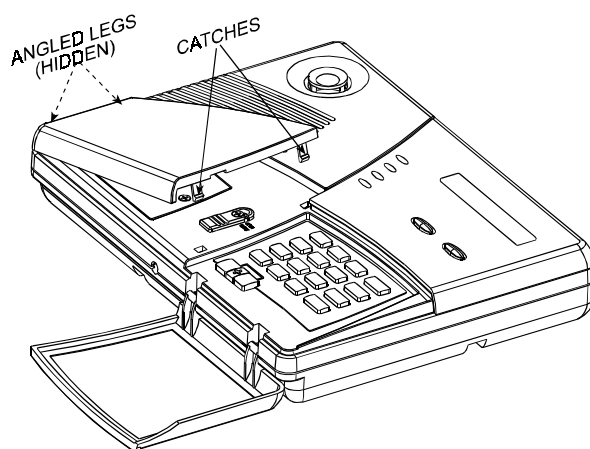
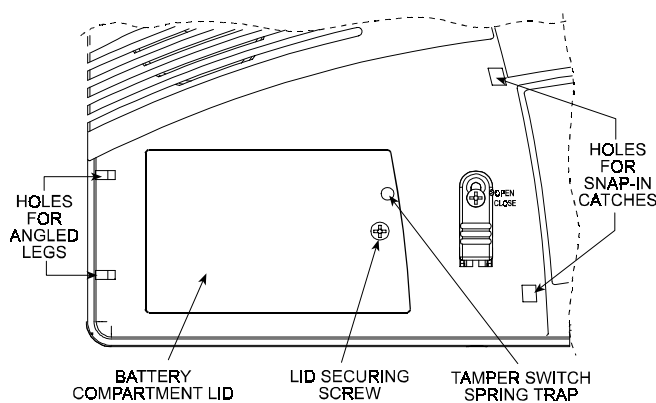
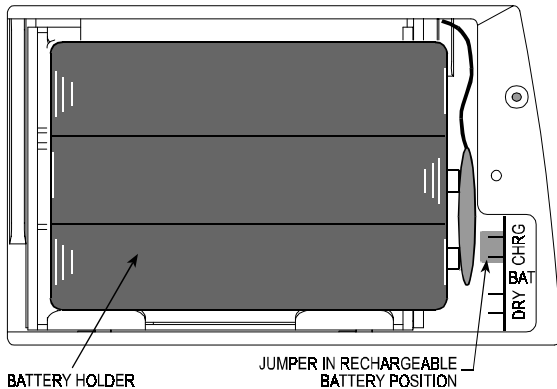

Figure 2. Removing the Battery Area Cover
Figure 3. Battery Area after Cover Removal
Figure 4. Battery Type Selection Jumper
**C.** Swing the cover up as shown in Figure 2, then pull free the angled legs at the left and put the cover away. The inner lid will now be in full view (see Figure 3).
- D. Remove the screw that secures the lid (see Figure 3), swing the lid up and pull it away. You now have access to the battery holder (see Figure 4).
- E. Pull out the battery holder and check that the battery type selection jumper is positioned in accordance with the type of batteries being installed (see Figure 4). For alkaline (dry) cells, the jumper should be mounted on the two lower pins. For Nickel Cadmium (rechargeable) cells - on the two upper pins.